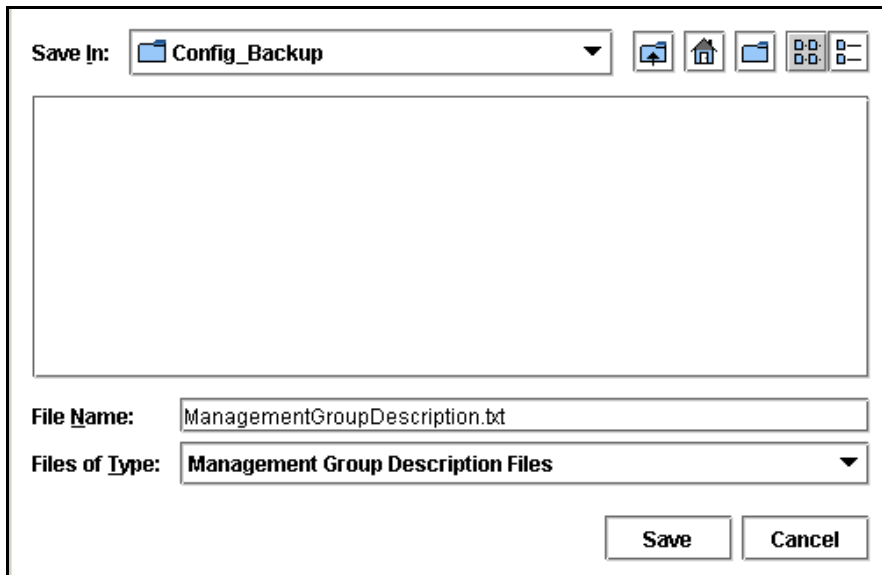

Figure 141. Save Window for Backing up the Management Group Configuration
1. Click Back Up Configuration. The Save window opens, shown in Figure 141.